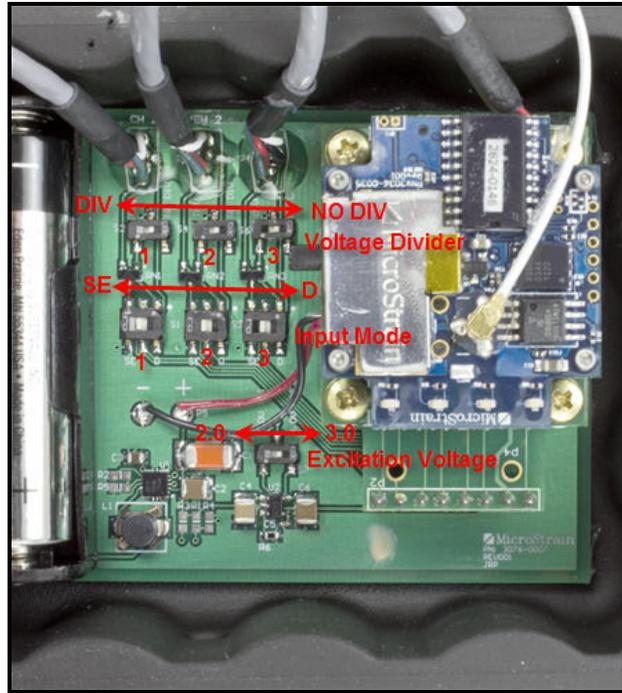

Figure 1. Switches
4. Set **Excitation Voltage** switch to 3 volts as shown in Figure 1.
5. Set **Input Mode** switch #1, #2 and #3 to Single Ended (SE).